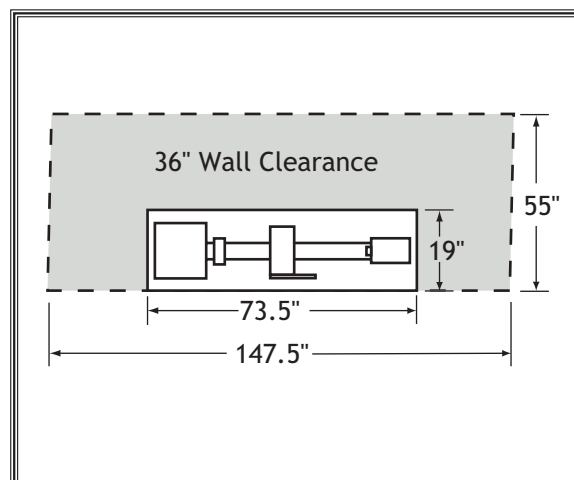

Figure 10. Minimum wall clearances.
- **Working Clearances:** Consider existing and anticipated needs, size of material to be processed through the machine, and space for auxiliary stands, work tables or other machinery when establishing a location for your gear head lathe (see **Figure 10**).